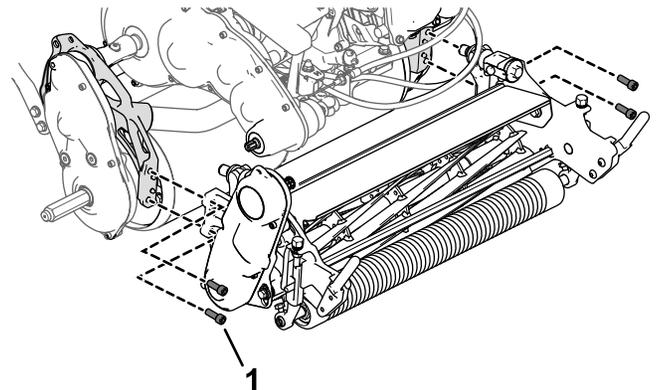

Figure 6
- Use 4 socket-head screws to install the cutting unit to the machine (Figure 6).